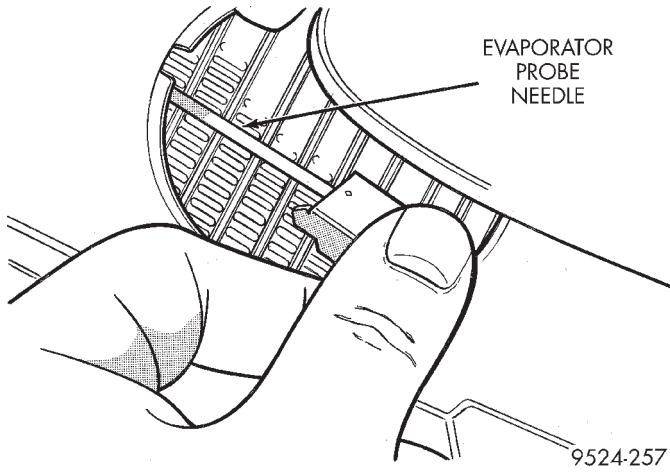

Fig. 85 Evaporator Probe Needle
(15) Remove evaporator probe cover. Pull evaporator needle from evaporator (Fig. 85).